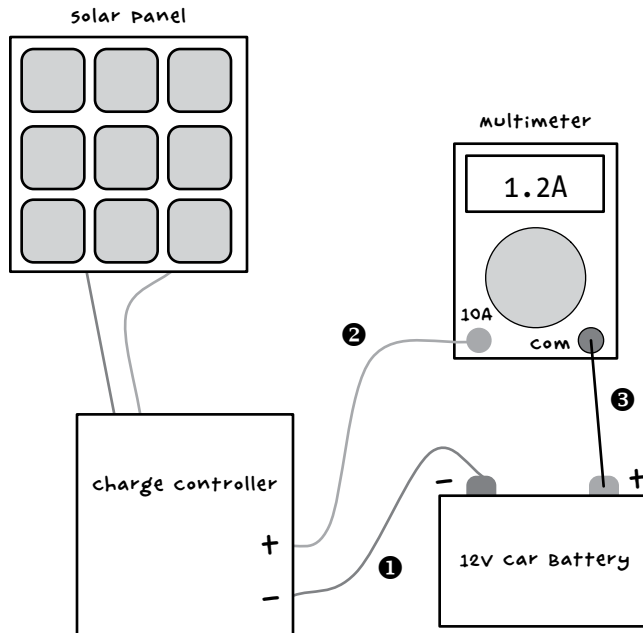

FIGURE 2-5: SOLAR PANEL WIRING DIAGRAM
The diagram shows the wiring for the project (Figure 2-5).
Charge controllers are all a little different from each other, but most will have six terminals, each in pairs of + and-. One pair will connect to the solar panel, another will connect to the battery, and the third pair (not shown in Figure 2-5) will connect to whatever you want to power with the battery. For now, let's just worry about charging the battery; I'll show you how to use that stored energy later.
Wire up the battery, multimeter, and charge controller as shown in Figure 2-5. The red probe lead from the multimeter can fit in the screw terminal of the charge controller, but the black probe needs to connect to the battery somehow. The best way is to attach one end of the black probe to one of the heavy-duty alligator clips.
This means we need to make three leads, using the alligator clips and probe leads. For the first of these leads (labeled ❶ in Figure 2-5 and shown in Figure 2-8, I just used half of the multimeter's black lead, with the probe cut off. However, you can use any black wire you like.
The second of the three leads (labeled ❷ in Figure 2-5 and shown in Figure 2-9) will go from the positive high-current terminal of the multimeter to the positive battery output of the charge controller. This lead is just the positive meter lead with the probe cut off and the insulation stripped off the last half inch (10 mm).
You'll connect the final of the three leads (labeled ③ in Figure 2-5 and shown in Figure 2-10) from the negative (COM) connection of the multimeter to the alligator clip that will be connected to the positive terminal of the battery.